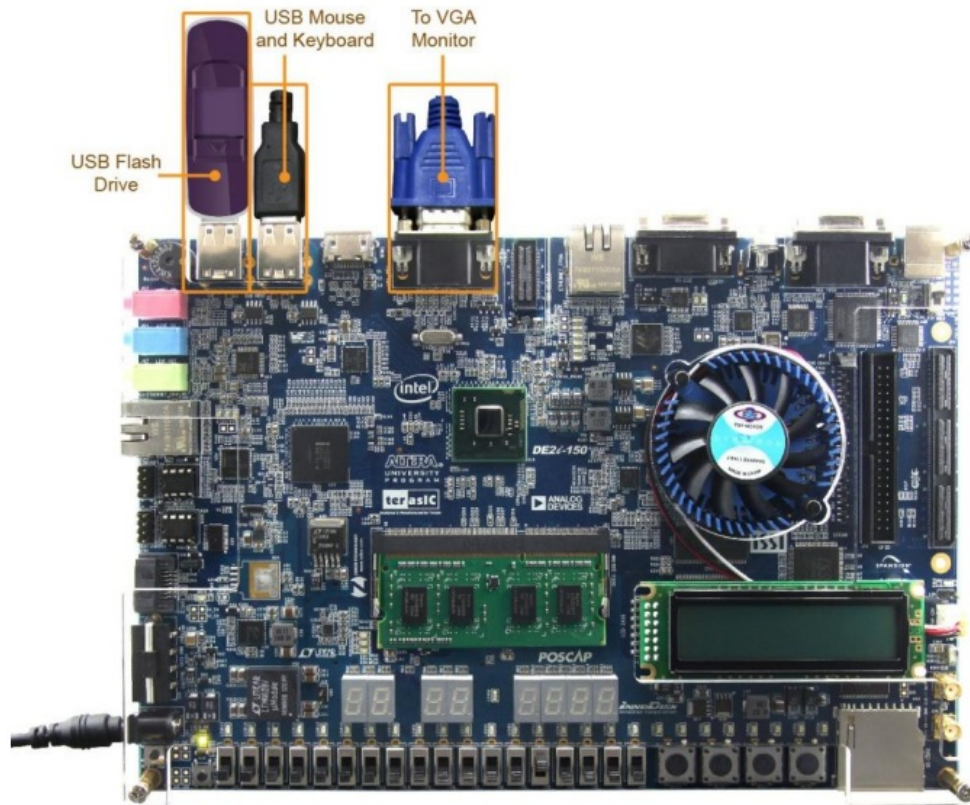

Figure 2-12 Hardware setup for the installation of Windows 7 from USB flash drive
1. Plugin your Windows 7 bootable USB flash drive to one of the USB ports on DE2i-150, as shown in Figure 2-12.